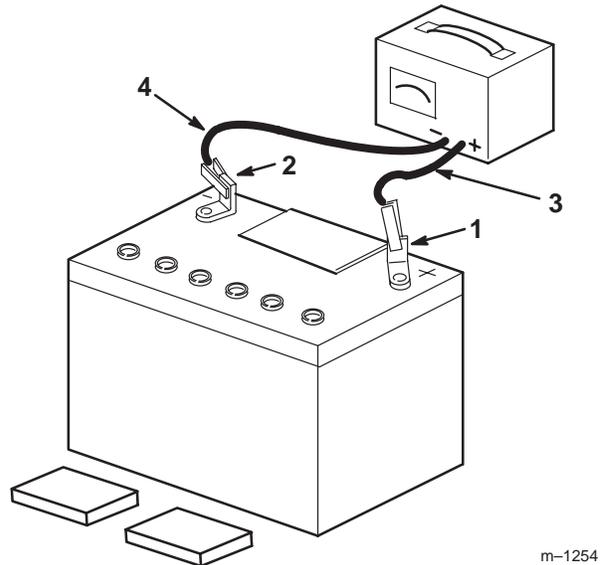

Figure 6
3. Leave the covers off and connect a 3 to 4 amp battery charger to the battery posts (Fig. 6). Charge the battery at a rate of 4 amperes or less for 4 hours (12 volts).
4. When the battery is fully charged, disconnect the charger from the electrical outlet then from the negative and positive battery posts (Fig. 6).
2. Peel off backing from battery pads and affix pads to battery holder, positioning as shown in Fig. 6.